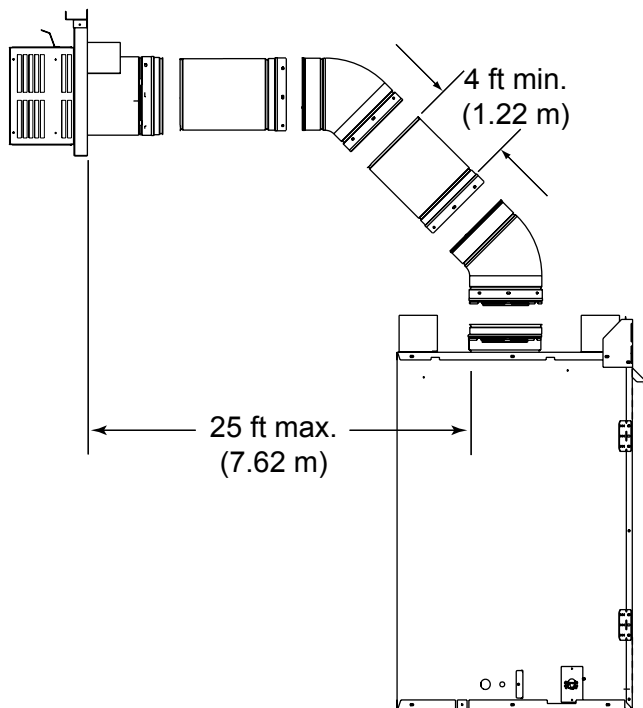

Figure 7.3 Minimum Installation Requirements for Two 45° Elbows-Top Vent-Horizontal Termination
- Elbows may be placed back to back anywhere in the system as long as the first 90° elbow is a starter elbow except as shown in Figure 7.3.